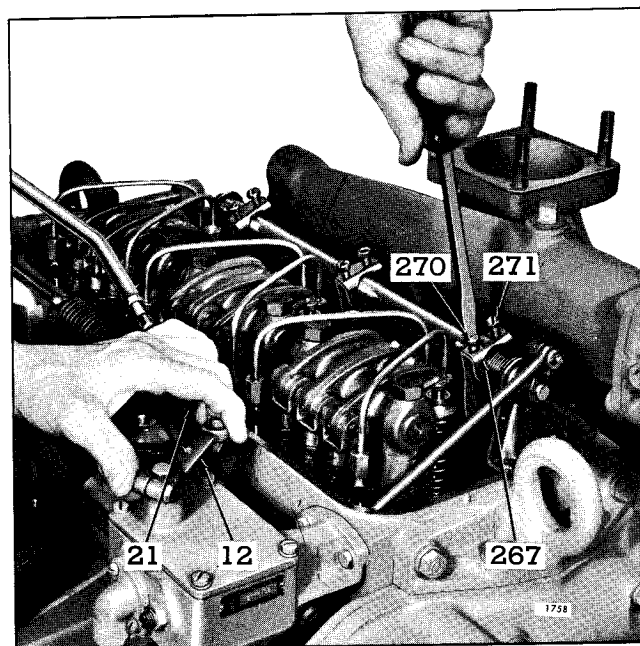

Fig. 2 - Positioning No. 1 Injector Rack Control Lever
Adjust the No. 1 injector rack control lever (267) Fig. 2 first, to establish a guide for adjusting the remaining injector rack control levers.
3. Loosen all the inner and outer adjusting screws shown in Fig. 2. Be sure all the injector rack control levers are free on the injector control tubes.